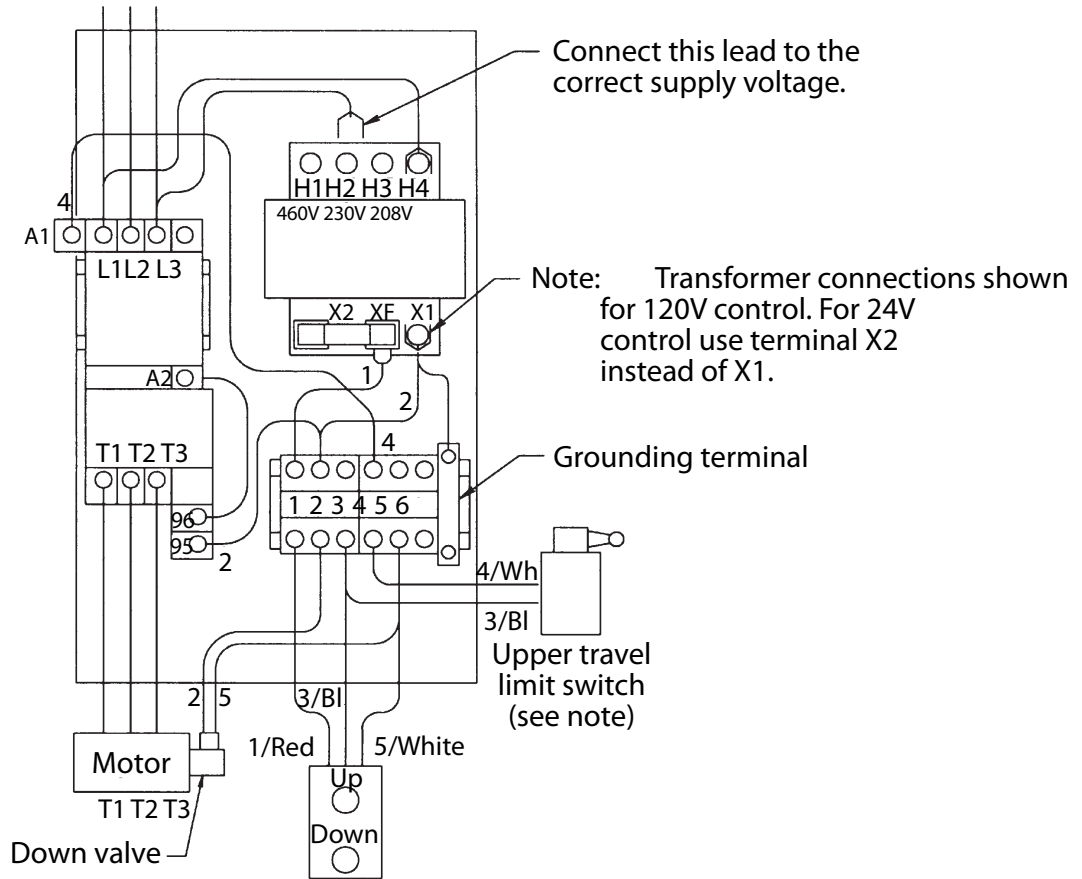

Fig. 8 – Electrical Connections, Lifts Wired for Three-Phase AC
- If you are lifting pipes or other objects which may be able to roll or move, fasten them down, or chock them as shown in Figure 8.